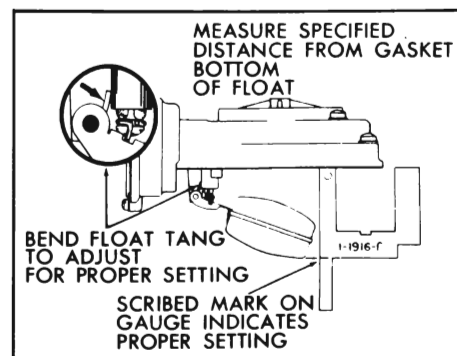

Figure 3-34—Float Drop Adjustment
13. Adjust Float Drop. With air horn assembly held upright, measure distance from gasket to bottom of float pontoon at outer end using Float Drop Gauge (1-29/32") as shown. Bend float tang as required to adjust float drop. See Figure 3-34.